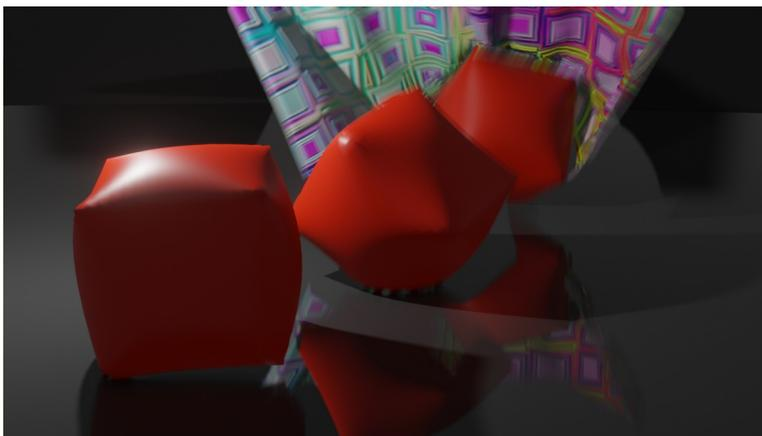

Figure 11-3 Cloth Simulation with Inflated Cubes and a Curtain
6. When you run the animation you should see the curtain drape and then deform realistically as it is hit by the cubes. As with the fluid simulations there are many settings to adjust and create anything from a rubber blanket to silken gauze. Mix up some materials as well to create an interesting scene as in Figure 11-3. Note that this render was done using the eevee engine with ambient occlusion, bloom, screen space reflections and motion blur all turned on. Also I added a solidify modifier to the
curtain, after the cloth modifier. Sometimes the Blender physics simulation system may struggle with multiple different collision objects and not produce the expected distortions on the cloth. For the example shown in Figure 11-3 I had to make sure that a cube with a collision modifier hit the curtain and that the curtain did *not* have a collision modifier.